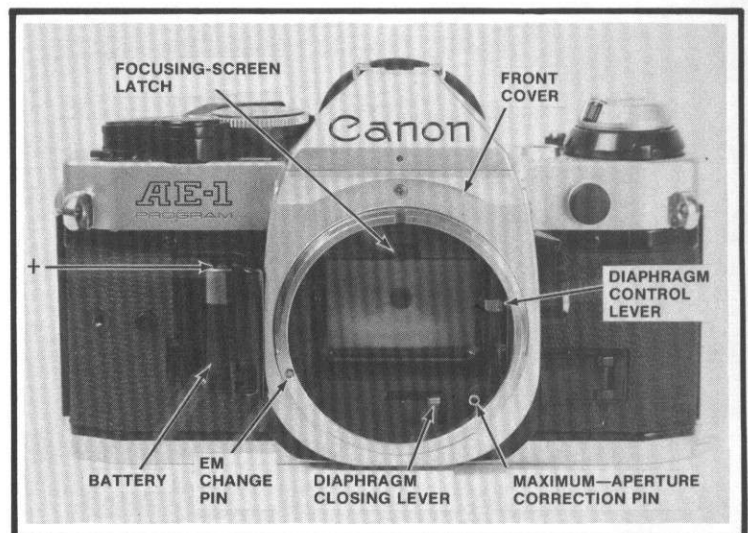

Figure 4
- **FOCUSING SCREEN:** Accepts interchangeable focusing screens. To remove the focusing screen, push up the latch at the top of the lens mount, Fig. 4. The standard screen is the E Type (split image and microprism). Other types available: A Type (microprism only), B Type (split-image only), C Type (all matte), D Type (matte with section lines), H Type (matte with scale), I Type (double crosshair reticle), and L Type (cross split image).
2. Maximum-aperture resistor. Watch the f/stop LEDs as you push in the maximum-aperture correction pin, Fig. 4. The f/stop indication should step down smoothly to larger f/stops as the maximum-aperture correction pin moves in. If not, suspect a dirty maximum-aperture resistor or a defective IC4.